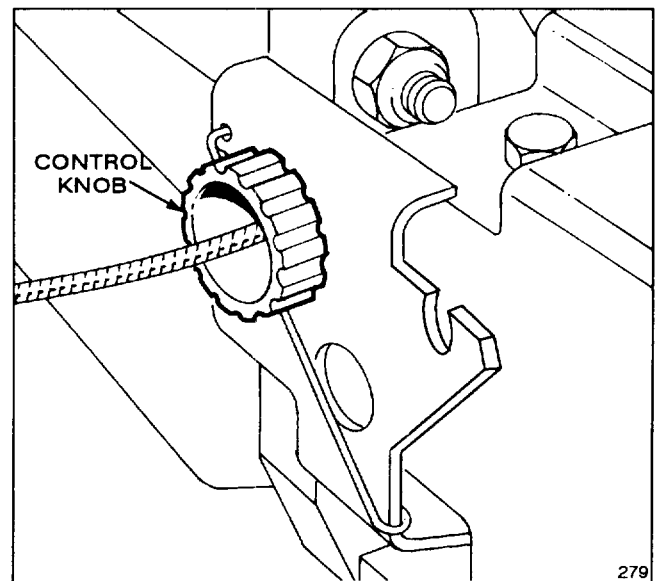

Figure 15
3. ADJUSTMENT (Fig. 15)—Rotate control knob clockwise to increase distance between control bar and handle. Rotate knob counterclockwise to decrease distance between control bar and handle.